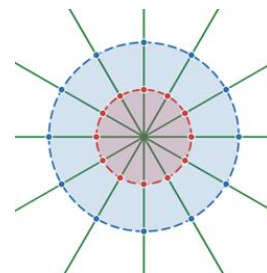

Figure 2: Sampling to place apertures
1. Many radial samples, or spokes, are taken from an estimated center of the beam outward (depicted as green lines in Figure 2) to find 1D profiles of the beam.
4. Both algorithms produce a set of points (Figure 2, red) that are fitted to a core circle creating the Core aperture for beam separation.
6. The Ring Center and estimated ring radius are calculated by fitting the radial centroids to another circle (Figure 2, blue).